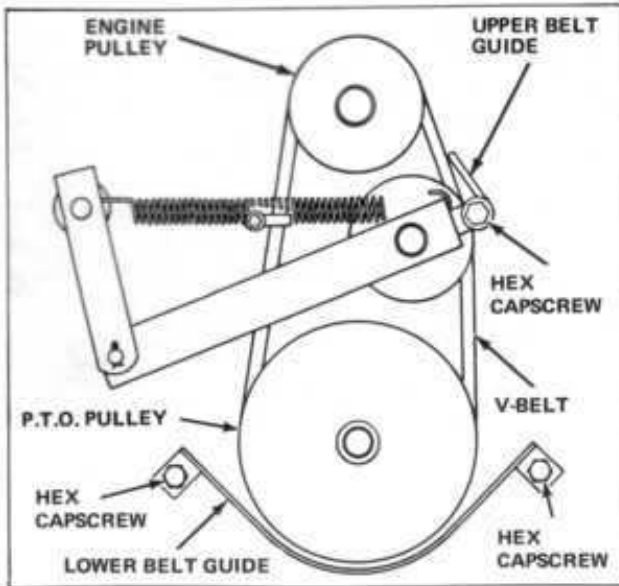

Figure 36
- With the P.T.O. lever in the ON position, loosen the hex capscrew which secures the upper belt guide shown in Figure 36. Adjust upper belt guide for 1/8 to 1/4 inch clearance between belt and belt guide. Tighten hex capscrew securely.